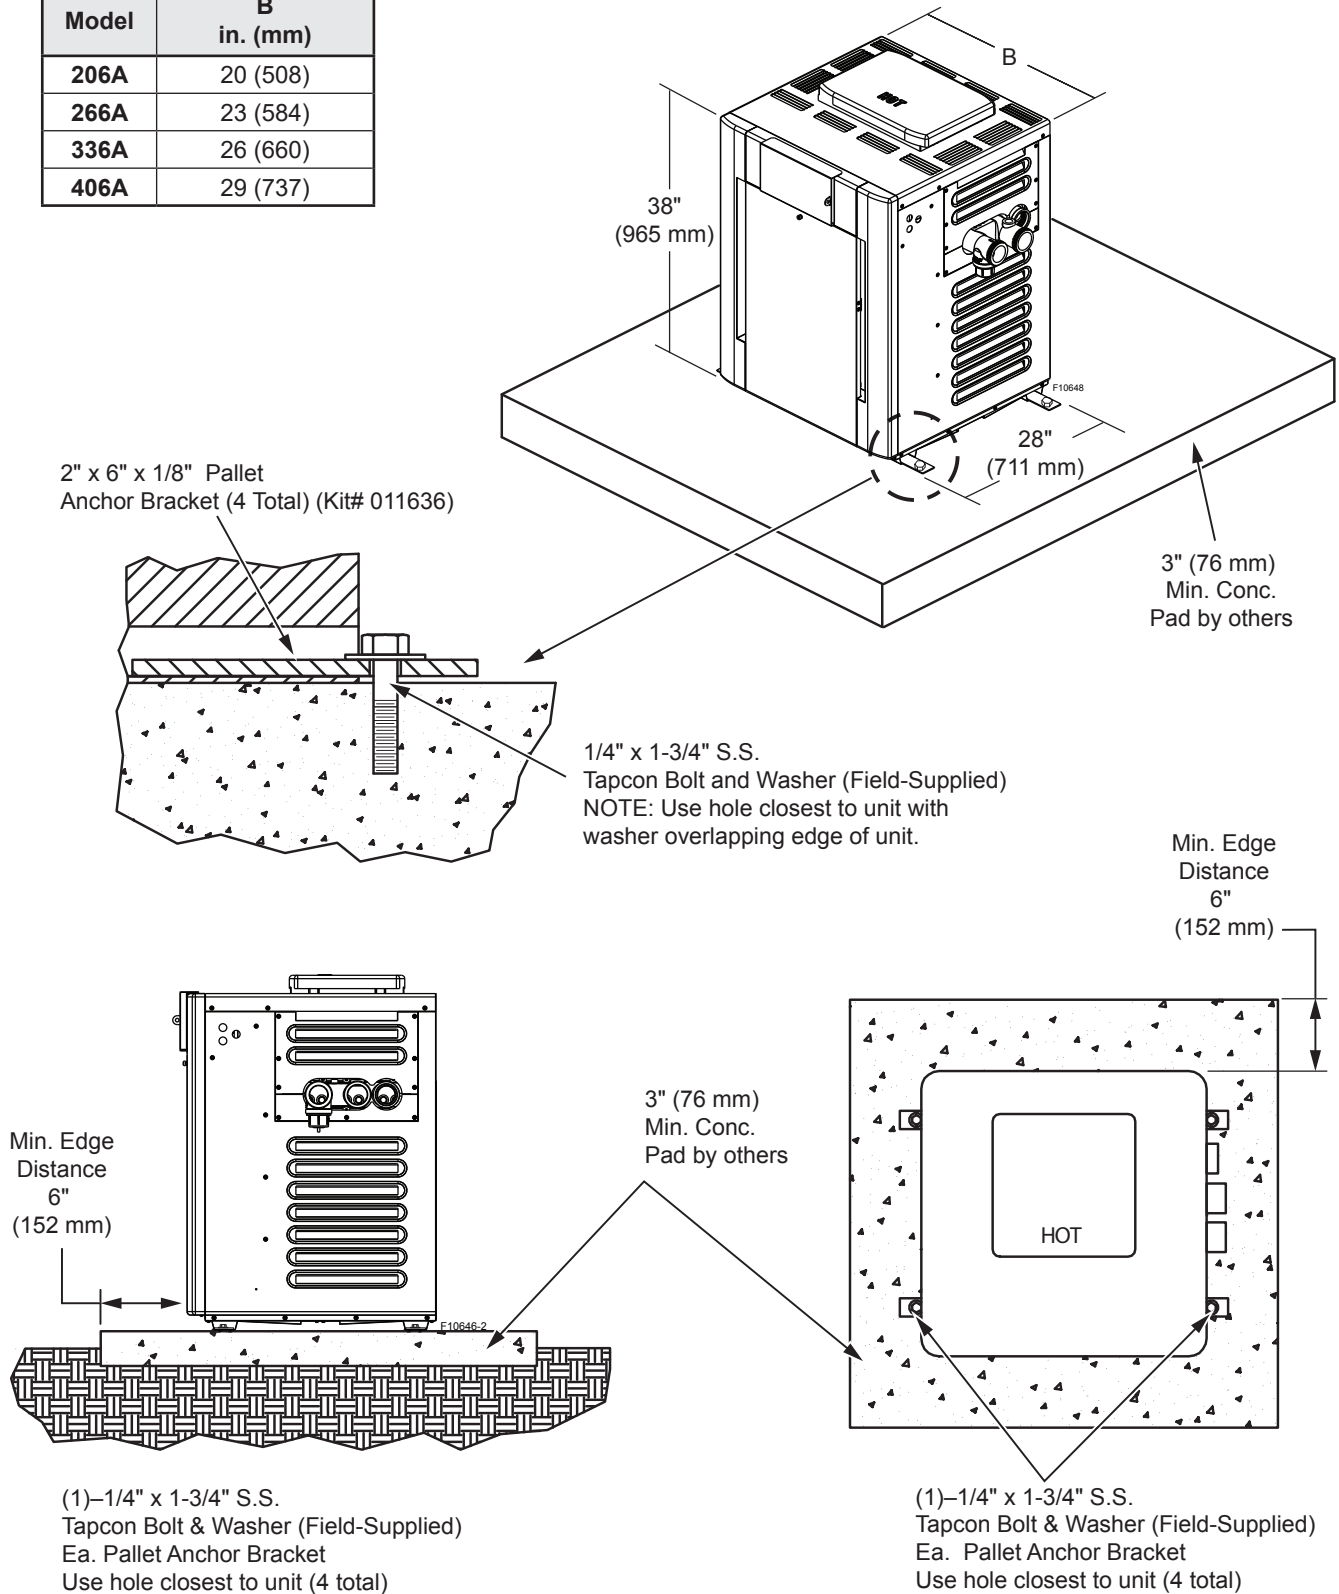

**Figure 5. Outdoor Top Installation**
1. Insert tabs into keyhole (4 places). See **Figure 5**, detail A.
2. Snap tabs into keyholes so as not to pull out. See **Figure 5**, detail B.